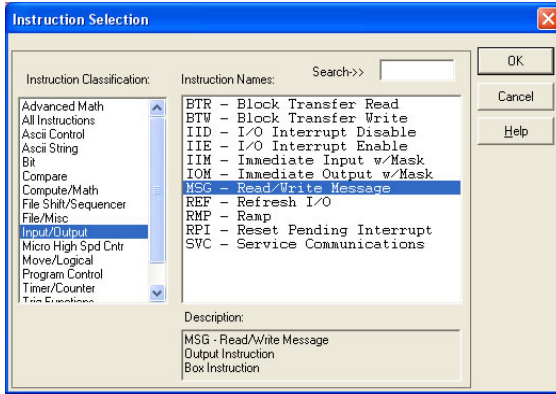

Figure 117: MSG Instruction Selection
- d) Select the "MSG" instruction from the "Input/Output" classification, then click OK. Refer to Figure 117.